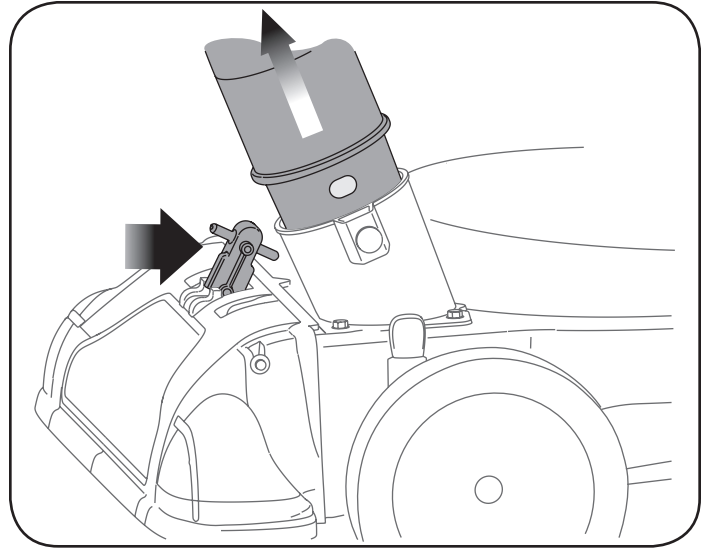

Figure 14
1. Place nozzle/hose vac lever in the top position on the nozzle to vacuum through nozzle. See Figure 14.